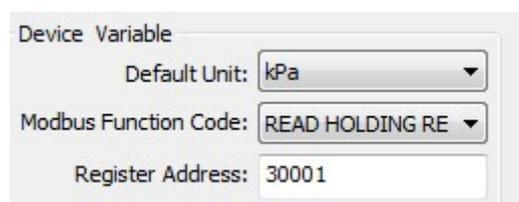

Figure 5.65 Register address selection
1. Select "Detailed Design"->"Sensor"-> drop-down box corresponding to "Register address", as shown in Figure 5.65